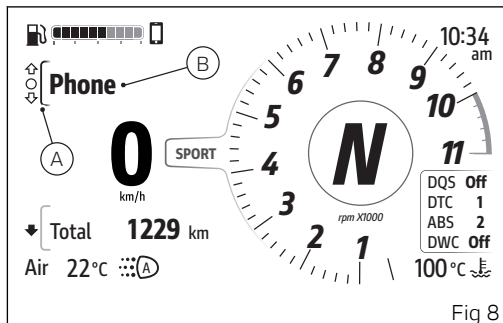

Fig 8
- Select the Interactive Menu (A, Fig 8) by pressing and holding button (1) pressed for a long time.
- Use buttons (1) and (2) to select item "Phone" (B, Fig 8) and press the ENTER button (3).